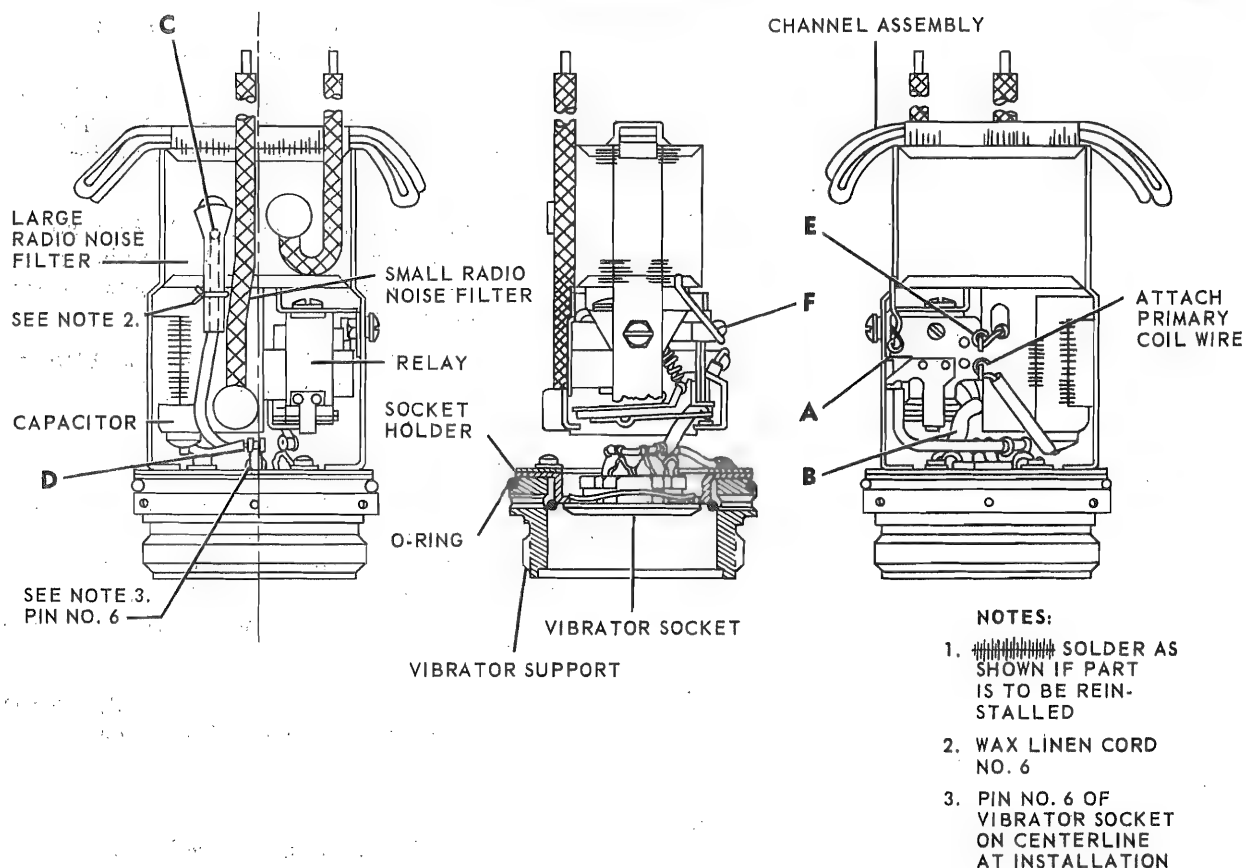

Figure 10-13. Location of Parts in Ignition Body
a. Cut lock wire and remove vibrator retaining ring (2).
b. Pull vibrator (3) out of socket and remove radio noise shield (4).
c. Remove screws (6) that hold vibrator support collar (5) to jacket assembly (44).
d. Remove vibrator support collar (5) and radio noise shield (7).
e. Replace vibrator retaining ring (2) temporarily, and remove remaining screws (17) to free vibrator support (43) from jacket assembly (44).
f. Grasp vibrator retaining ring (2) and carefully pull vibrator support (43) out of jacket assembly (44) far enough to expose primary coil wire assembly (45).
g. Unsolder primary coil wire assembly (45) from terminal on relay (28) and withdraw body assembly. (See figure 10-13.) Do not turn or twist body assembly when pulling it from jacket.
a. Unsolder wires from terminals of relay (28, figure 10-10) at locations A and B (figure 10-13).
b. Cut waxed cord and slide insulating sleeve (20, figure 10-10) back on wire (40). Unsolder wire from terminal of large radio noise filter (19) at location C, figure 10-13.
c. Unsolder wire leading to capacitor (29, figure 10-10) at location D, figure 10-13.
a. Unsolder relay wires at locations E and F, figure 10-13.
a. Check relay (28, figure 10-10) for pitted or burned relay contacts, broken insulator plates, and an open circuit in coil winding. The relay coil winding can be checked for continuity by connecting leads of an ohmmeter across two relay coil terminals, points E and F. (See figure 10-13.) Coil resistance should be approximately 500 ohms. Replace for any of these conditions.
a. Place vibrator socket (41) in socket holder (36) and secure it by installing retaining ring which is a part of vibrator socket. Be sure to align slot in socket with spline on socket holder.
b. Locate bracket assembly (33) and vibrator support (43) against socket holder (36). Align pin No. 6 of vibrator socket (41) with one of the screw holes in vibrator support as shown in figure 10-13. Locate O-ring (42, figure 10-10) between socket holder (36) and vibrator support (43). Then install four screws (34) and lockwashers (35). Be sure to connect ground wire (37) from pin No. 3 of vibrator socket under head of one of these screws.
a. Place capacitor (29) in position in bracket assembly (33), and solder capacitor to bracket assembly with rosin core solder.
b. Position radio noise filter (32) against capacitor (29) as shown in figure 10-13, and solder in place using rosin core solder.
c. Slip insulating sleeve (31) onto capacitor lead closest to pin No. 6 of vibrator socket (41). Solder lead to pin No. 6 and position insulating sleeve.
a. Slide large radio noise filter (19) into end of bracket assembly (33). (Refer to figure 10-13 for correct position.)
c. Position channel assembly (18) on radio noise filter (19) as shown in figure 10-13. Solder channel assembly bracket to body of radio noise filter.
a. If wire assembly (45) was removed during disassembly, attach it to primary coil terminal with nut (46) and lockwasher (47).
b. Slide ignition body assembly into jacket assembly (44) far enough to permit soldering primary coil wire assembly (45) to relay terminal. (See figure 10-13.)